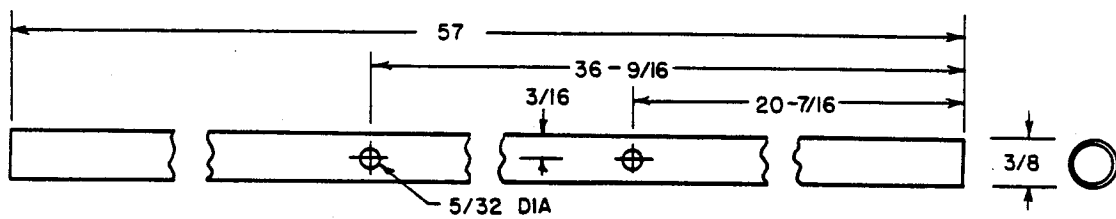

Figure 3-3
- (2) - Long Radials (Figure 3-3)